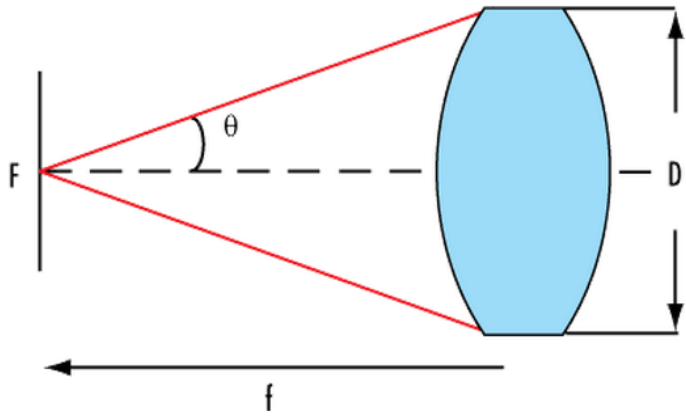

Figure 4: DCX Lens Showing $f\#$ and NA
Knowing where the light will go is only the first step in designing a light-projecting system; it is just as important to know how much light is transmitted from the object, or the source. The efficiency is based on how much light is received by the detector, thereby answering the question "How much light exists initially?" The Numerical Aperture (NA) and f-number ($f/\#$) of a lens measure the amount of light it can collect based on f , D , index of refraction (n), and Acceptance Angle (θ). Figure 4 illustrates the relationship between $f/\#$ and NA.